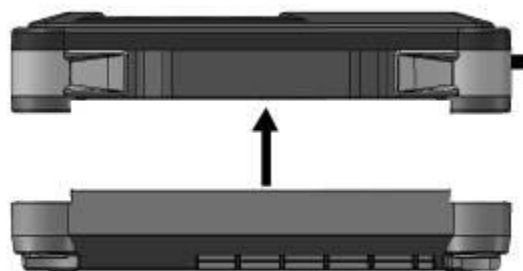

Figure 2, Lifting head off unit.
3. Lift the top (or "head") off the bottom of the unit as shown in Fig. 2 and set the Dossier head aside.